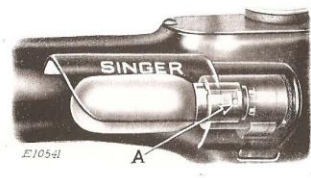

FIG. 8. REPLACING THE BULB
To insert a new bulb, press it into the socket and turn it, in a clockwise direction, until the bulb pin (A) enters the notch in the socket, as shown in Fig. 8.